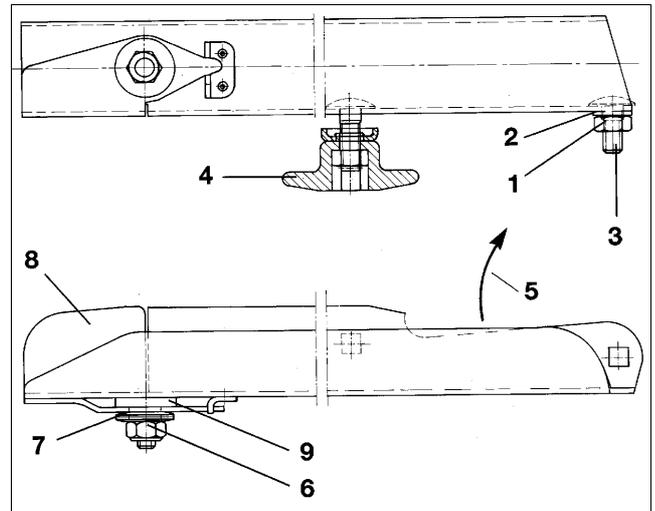

Fig. 48
- Slacken self-locking nut (Fig. 48/1).
- Remove washer (Fig. 48/2) and flat mushroom head bolt (Fig. 48/3).
- Slacken thumb nut (Fig. 48/4) and exchange spreading vanes.
- Tighten the self locking nut (Fig. 48/1) in such a way, that the spreading vane can be swivelled by hand.
Note the correct fitting of the spreading vanes. The open side of the U-shaped spreading vane shows into sense of rotation (Fig. 48/5).
- Slacken self locking nut (Fig. 48/6) and remove together with spring washers (Fig. 48/7).
- Exchange swivel blades (Fig. 48/8).
- Tighten self locking nut (Fig. 48/6) with a torque of **6 - 7 Nm**, so that the swivel blade can still be swivelled upwards by hand, however does not swivel up by itself during operation.
Mind plastic washer (Fig. 48/9) between spreading vane and swivel blade.